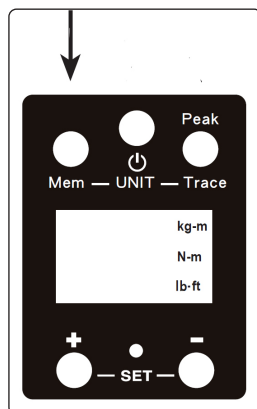

fig.6
- 4.6.2. Press "Mem" button for at least 1 second and release (fig.6), the LCD display shows the memory number "P01" then the torque value for this.